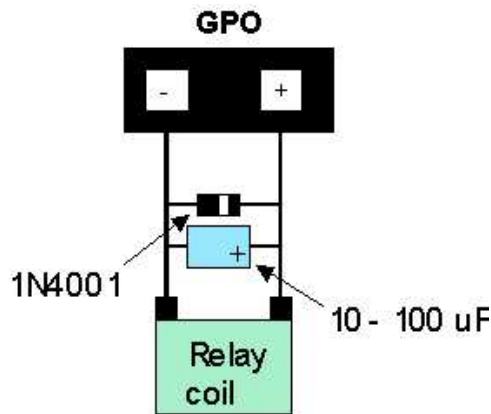

Figure 19: Clamping a Relay
**NOTE** The GPOs do not have any over current or over / under voltage protection so care must be taken when using them. For instance if the external device is a relay, it must be fully clamped (using a diode and capacitor) to absorb any generated back electro-motive force (EMF). Please refer to Figure 19 on clamping a relay.35